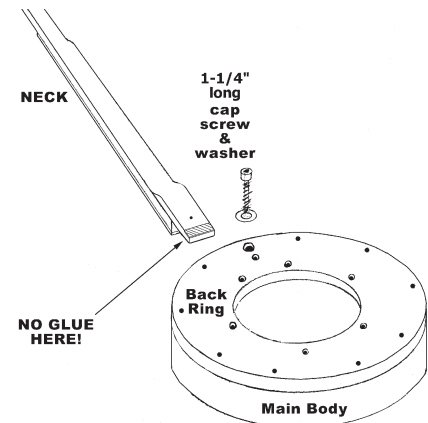

FIG. 24
20. Now you can install the neck into the body. It should be a tight fit. There are 2 cap screws left in your kit -- one longer than the other. The long one needs the washer. Screw that one into the hole closest to the top edge of the body and into the hole in the tang. (fig. 24) It should thread itself into the t-nut in the tang, but you may need to wiggle the neck a little to get it started.